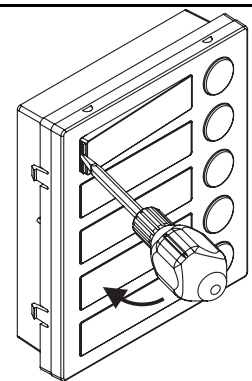

Fig.14
- Move the screwdriver to the left as shown in figure 14 to extract the card name holder.